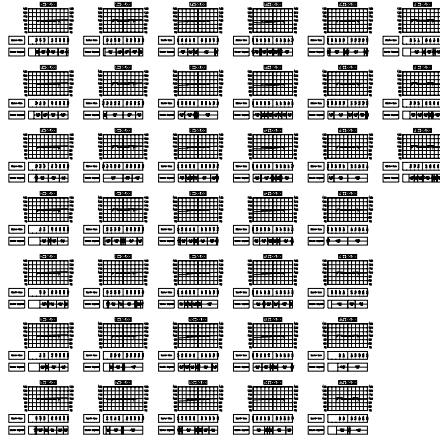

**Figure 9-48** Selecting the **L Street Plot** style from the **Pick Section view group plot style** dialog box
4. Select the **L Street Plot** style from the drop-down list in this dialog box, as shown in Figure 9-48.